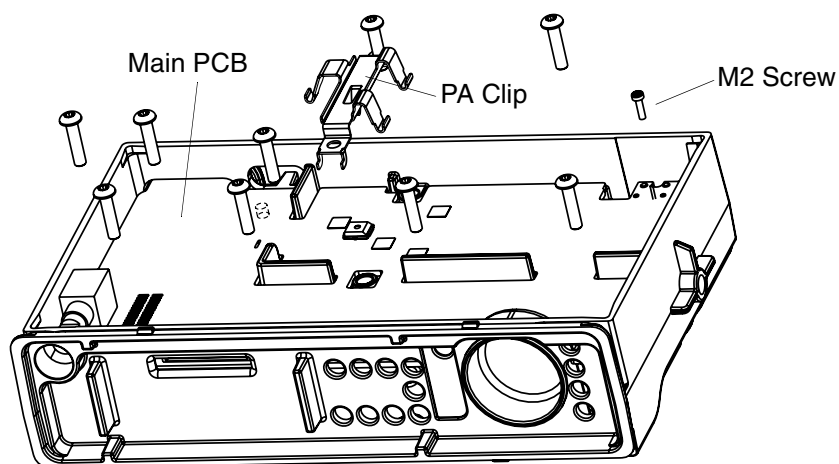

Figure 2-9 PA Clip and Main PCB Removal
1. Remove the screw that attaches the PA clip to the chassis. See Figure 2-9.